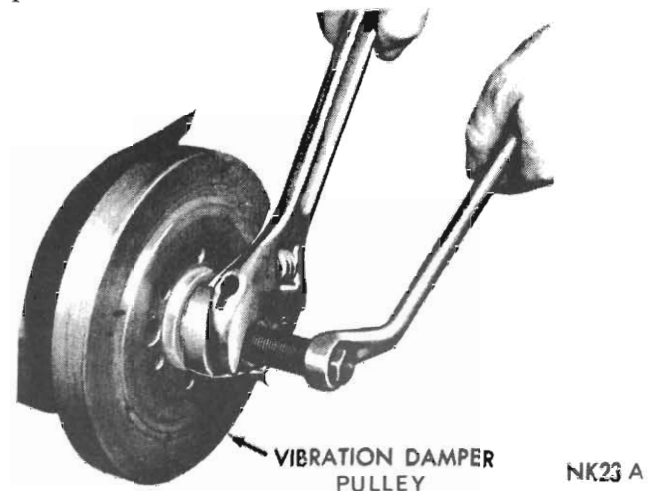

Fig. 30 - Installing damper pulley assembly
(1) Place the damper pulley assembly hub key in slot in crankshaft, lubricate seal with Chrysler Door Ease Lubricant and slide hub on crankshaft.
(2) Place the installing Tool E9C55E in position and press the damper pulley assembly hub on the crankshaft (*Fig. 30*).
(3) Re-install the accessory drive pulleys and spacers in the correct location and direction — **Note** that spaced spigots must face FORWARD — **Check** the final assembly alignment of all the drive pulleys — refer to diagrams in Group 7 — Accessory Drive Belts.